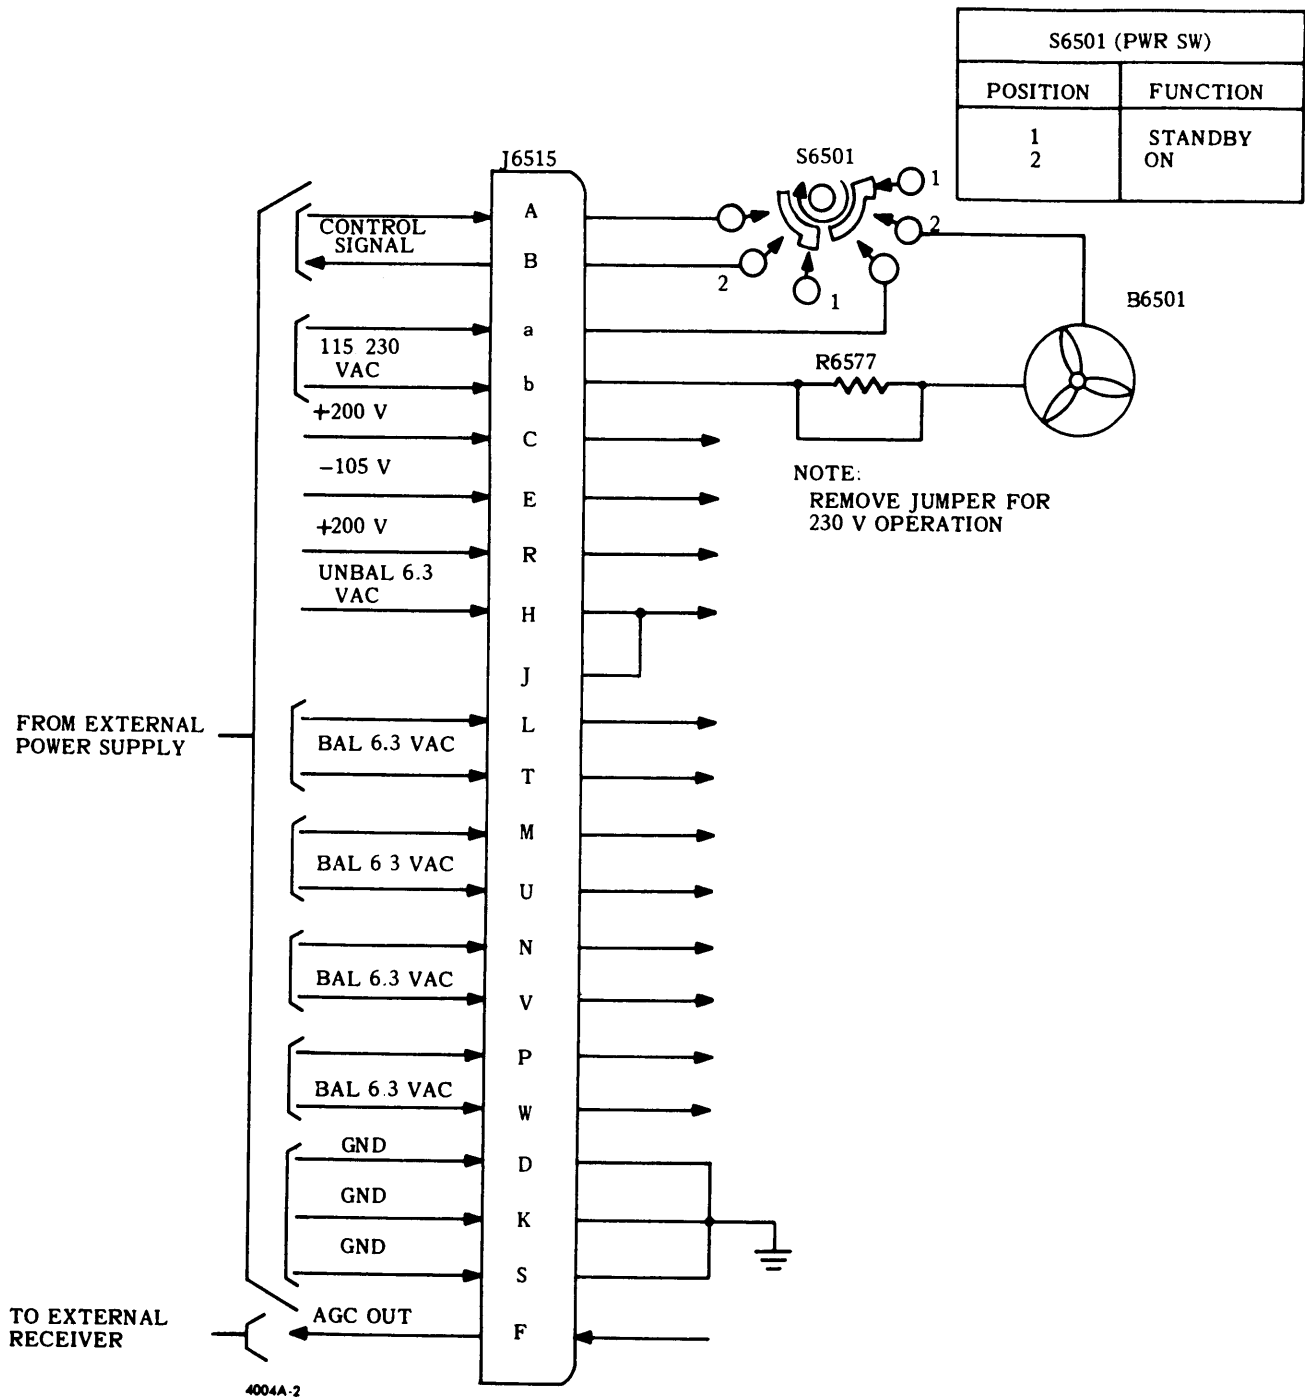

Figure 2-1. External Power and AGC Connections, J6515
- (1) Set the MSA chassis slide mechanisms in tracks.
- (2) Slide chassis in tracks until rearward release finger engages holes in track.
- (3) Press forward release fingers and slide chassis into cabinet; secure front panel of MSA to rack with screws.
- (4) Make the necessary cable and electrical connections as described in paragraph b.
b. ELECTRICAL. - All external connections are made at the rear panel of the MSA. Refer to figures 2-1 and 2-2 and table 2-1, and make connections as indicated.